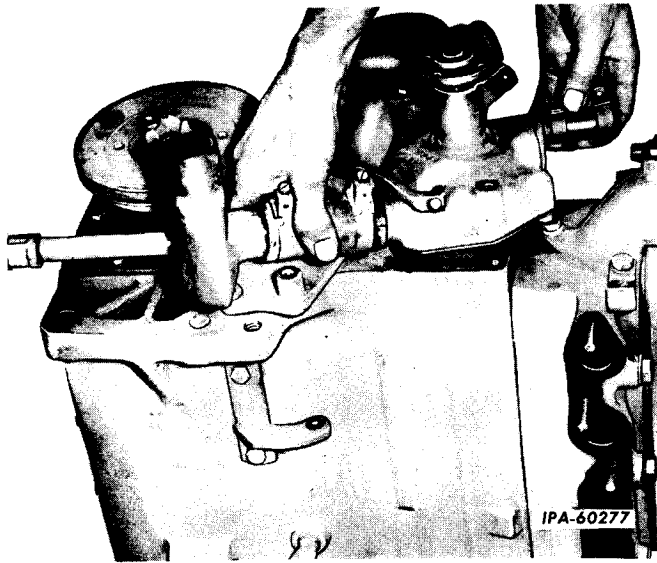

Fig. 2 - Removing the Water Pump (135 Series - Others Similar).
3. Loosen the upper hose clamp (7, Fig. 1). Remove the three mounting bolts securing the pump housing to the crankcase and lift the pump, complete with the radiator outlet elbow, off the engine (Fig. 2).
2. Connect the water by-pass hose to the water outlet elbow (Fig. 2).